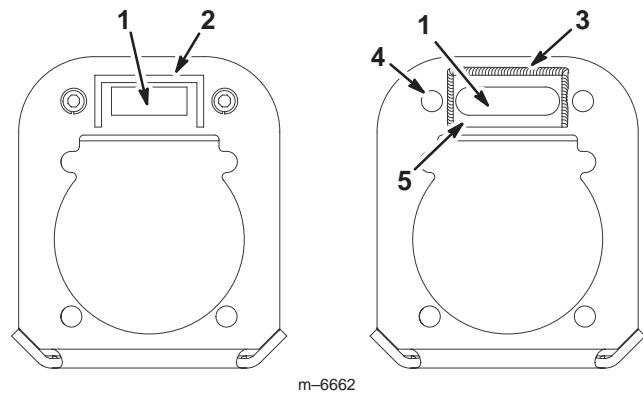

Figure 10
1. With an appropriate tool, cut off old brake block (Fig. 10).
4. Place the new brake block over the brake plate to line up the block between, and level with, the two surrounding socket holes (Fig. 10).
8. Weld the new brake block to the frame with a quarter inch fillet on the left, top and right sides of the block as shown in Figure 10.